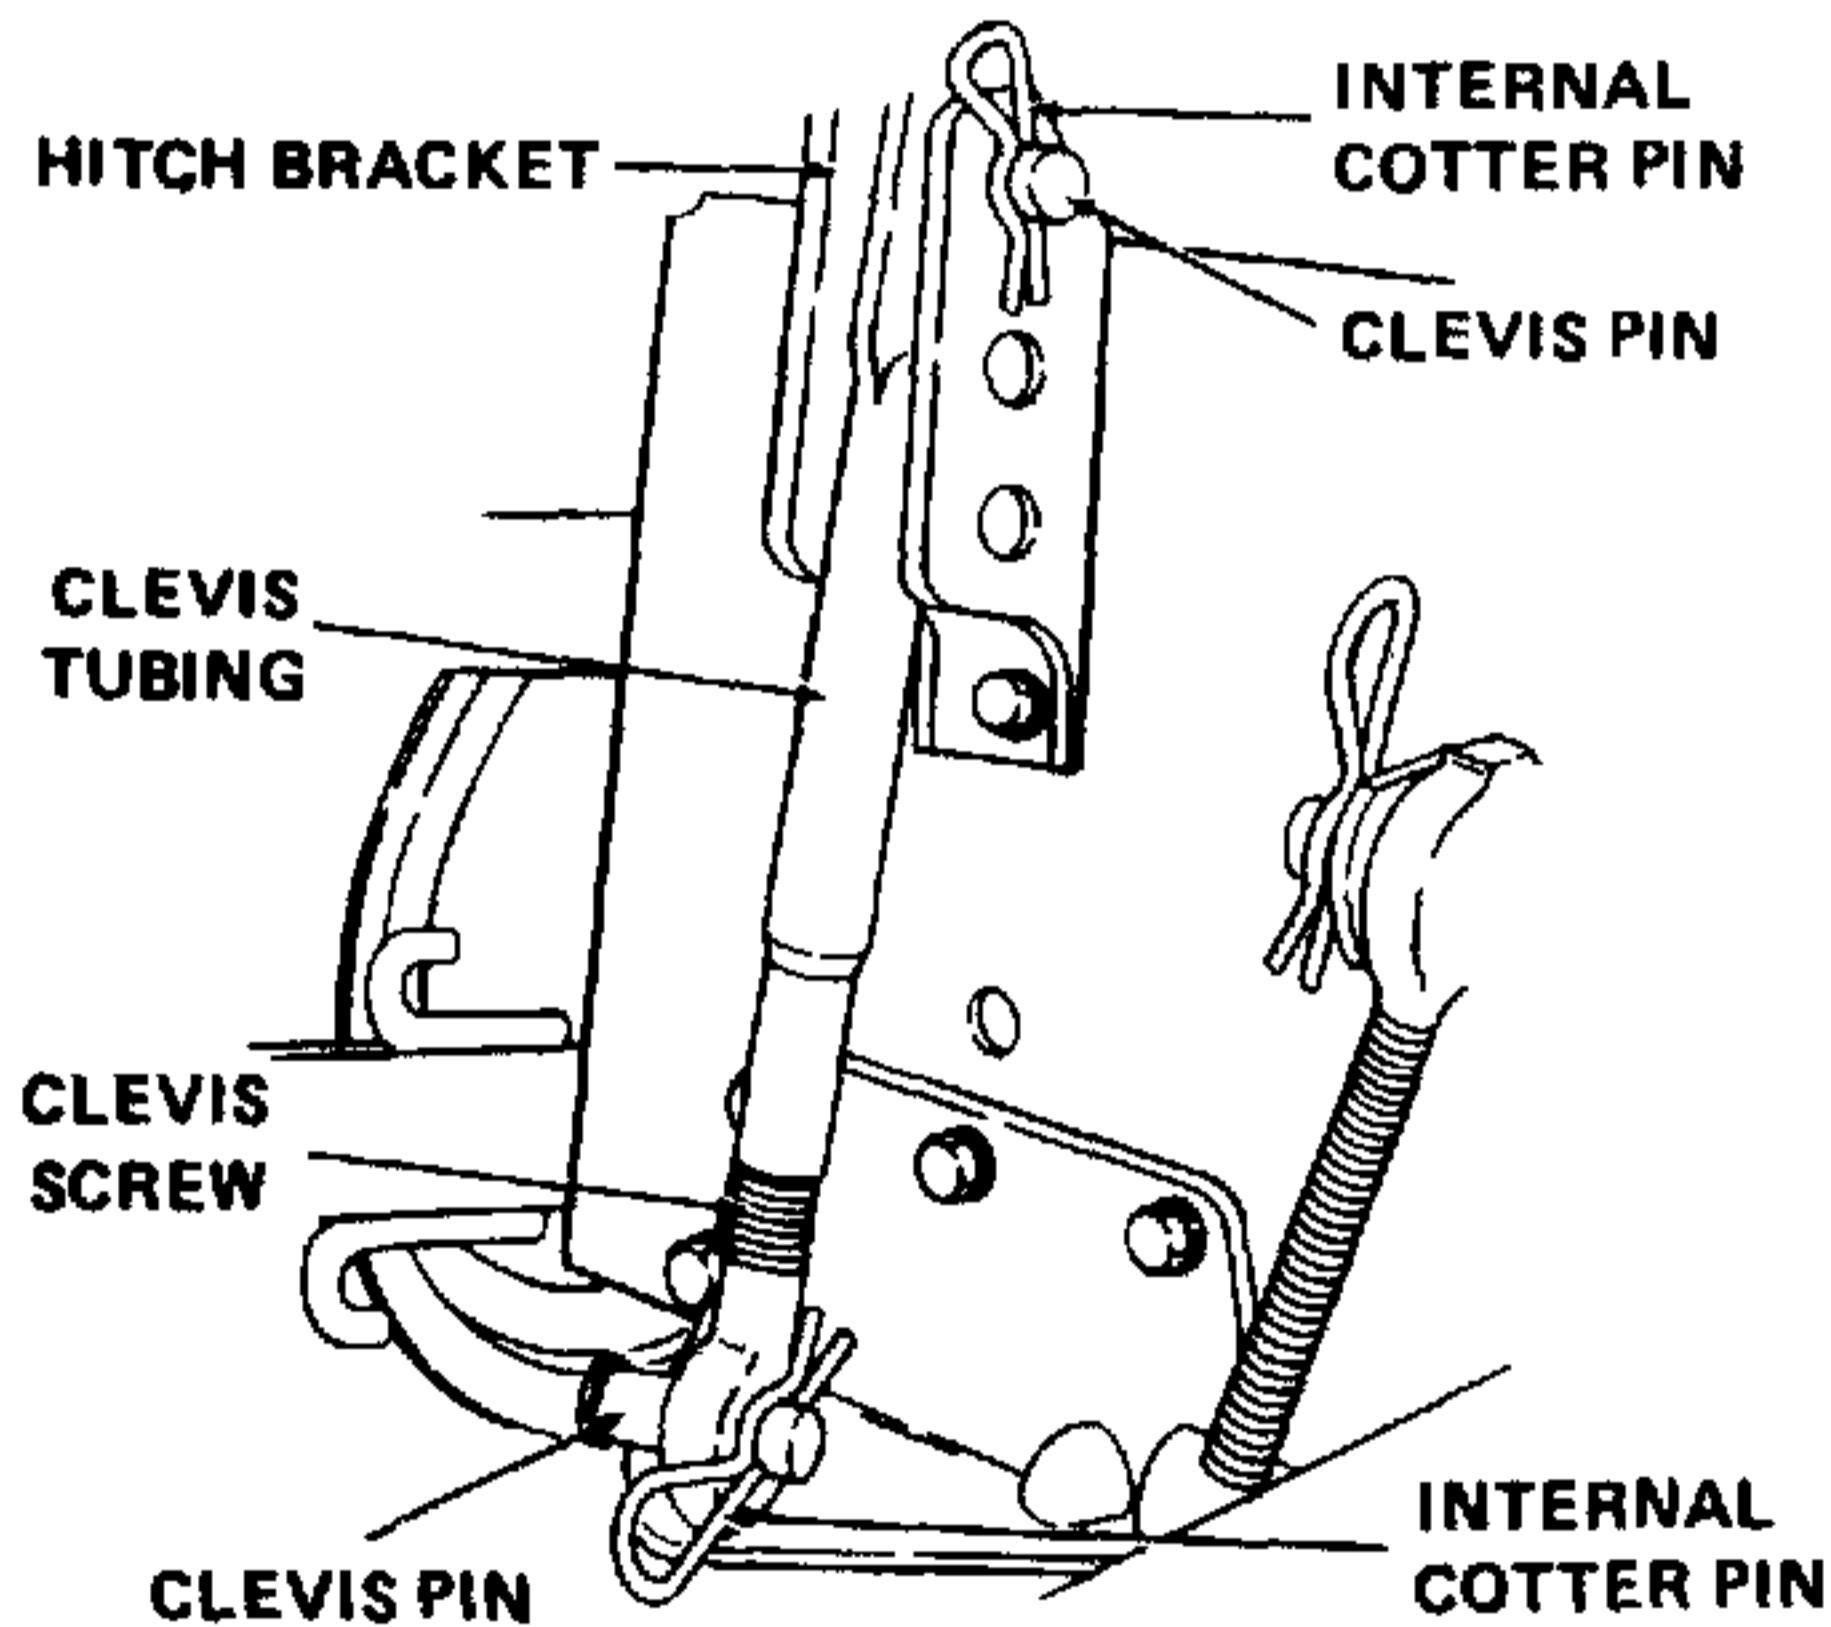

Figure 7-62. Securing Clevis Tubing Inside Hitch Bracket.
- b. Place clevis tubing inside hitch bracket, insert clevis pin (19, Figure 7-40) and secure with 5/8-inch internal cotter pin (15). Refer to Figure 7-62.
- c. Insert clevis pin (19, Figure 7-40) through looped end of clevis screw and secure with 5/8-inch internal cotter pin (15). Refer to Figure 7-62.